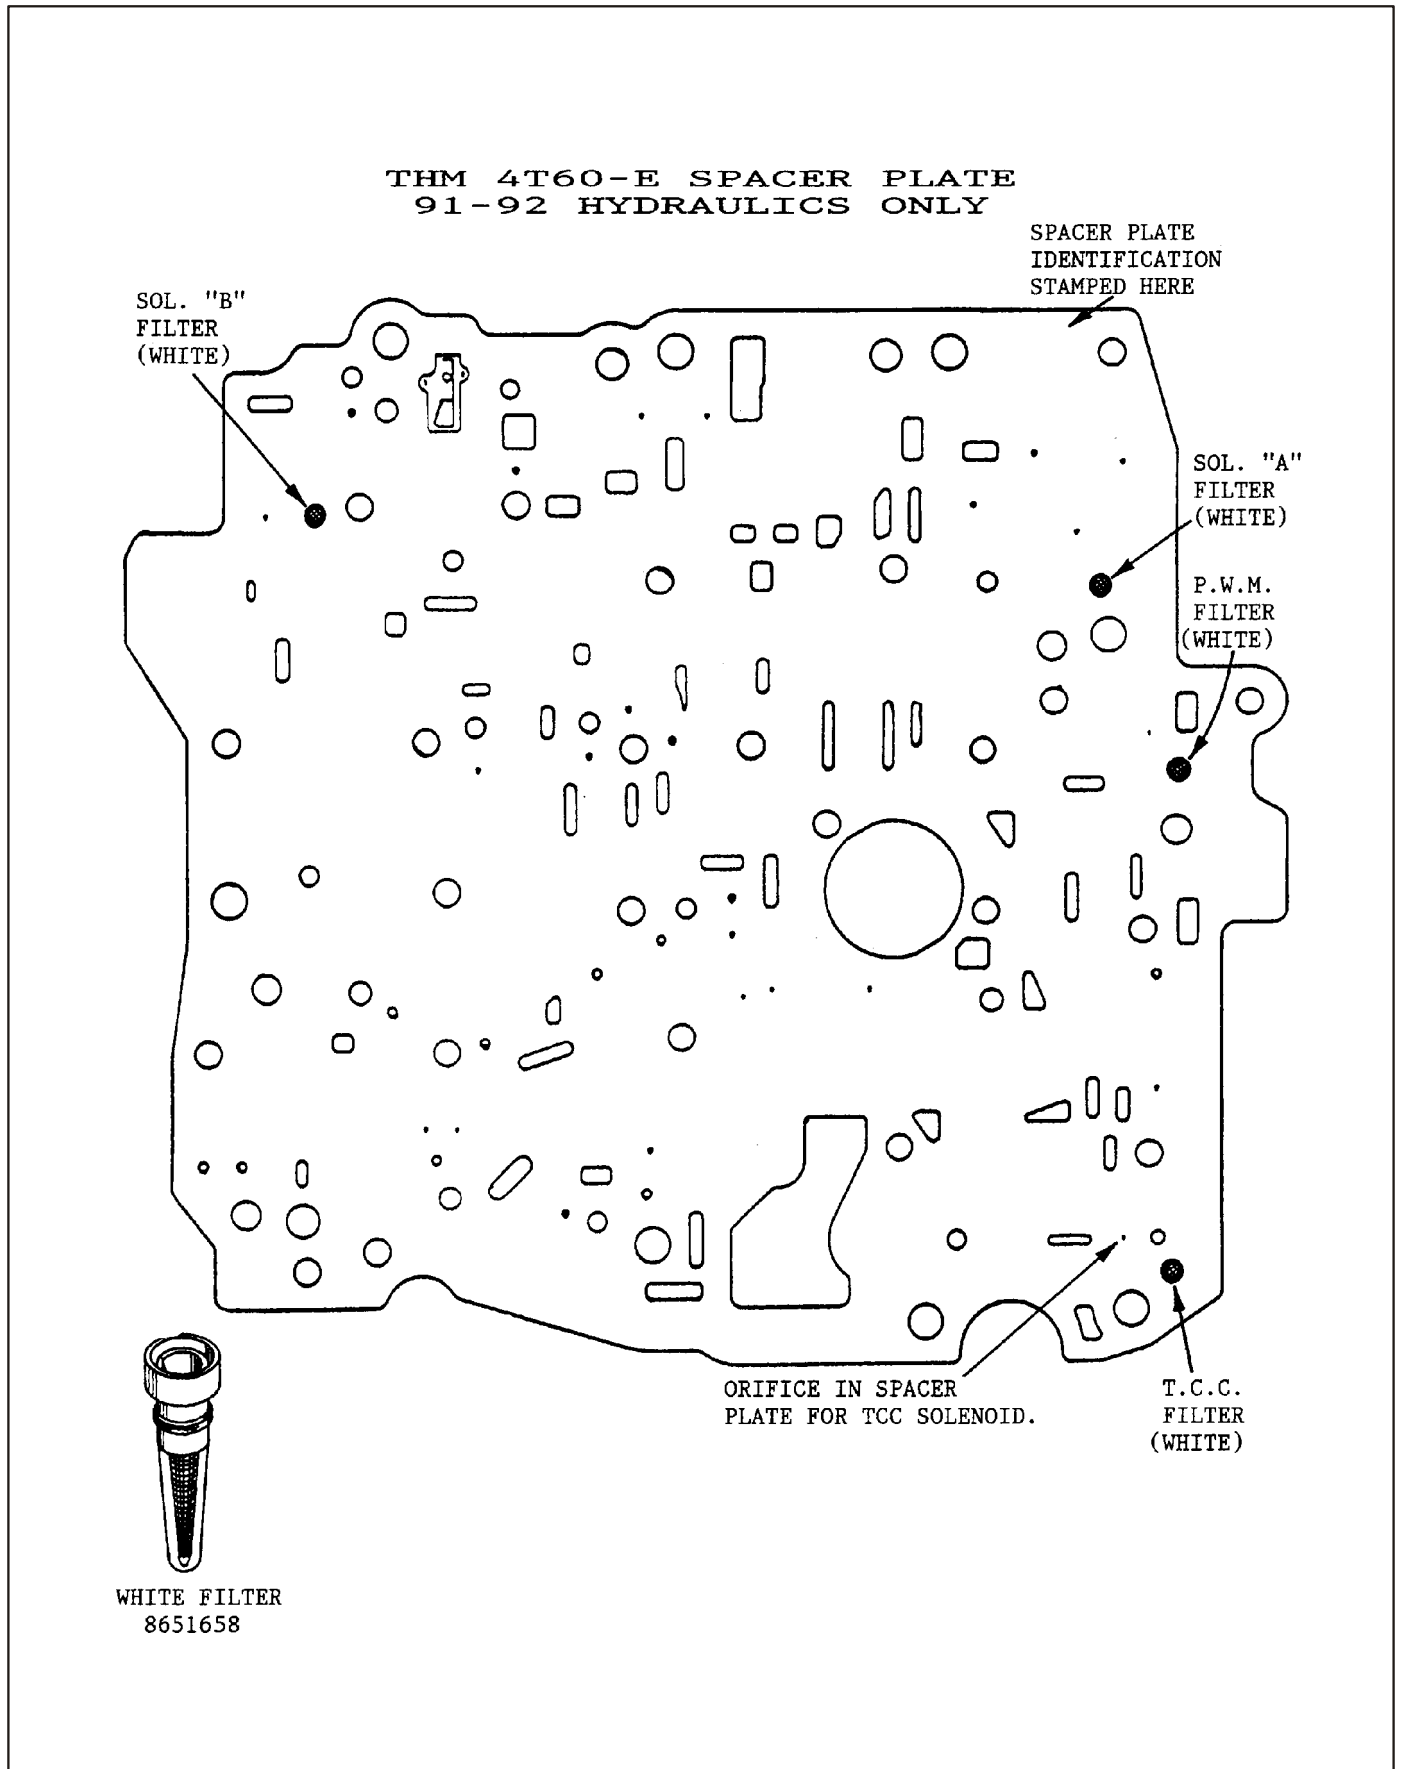

Figure 3
(2) **VALVE BODY SPACER PLATE** - Different hole spacing to accommodate the valve body and channel plate casting changes. Also the 91-92 hydraulics spacer plate has the TCC solenoid orifice in the spacer plate, and the 1993 hydraulics requires the screen and orifice assembly, with the "O" ring, that we seen in the THM 440-T4 transaxle (See Figures 3 and 4).